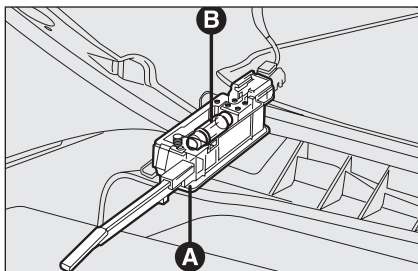

fig. 44
- open the glovebox, then remove the light unit **A**-fig. 44;